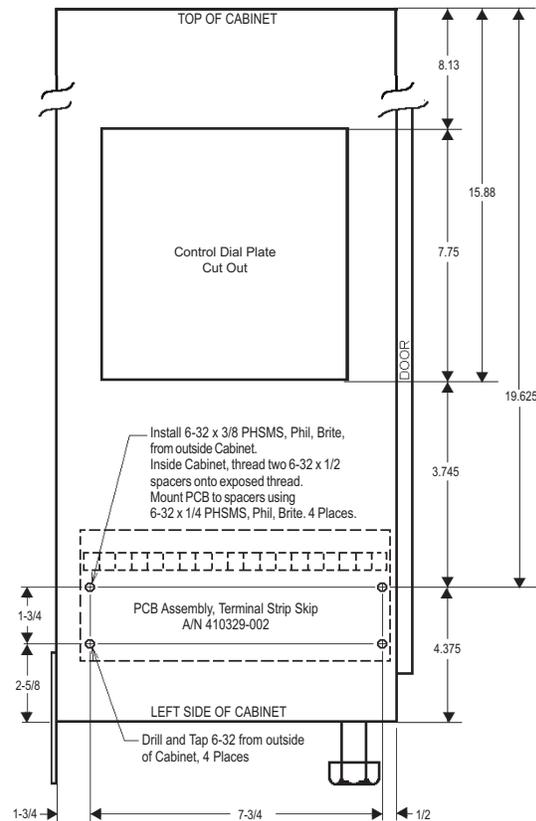

Figure E3. Mounting detail for
3. Remove the four (4) screws mounting Terminal Strip Input Board (A/N 410329) to the Cabinet. Rotate Board 180° (so terminal strip is at the top) and re-mount Board using same four (4) screws.
4. Drill and tap left side of the cabinet per Figure E3, be sure to vacuum or otherwise remove ALL metal chips before installing four (4) 6-32 x 3/8 PHSMS, Phil., Brite from outside the cabinet. On inside of the cabinet, mount two (2) 6-32 x 1/2 spacers (P/N 555031) on each exposed thread (4 places) to offset PCB 1" from cabinet wall.
5. Mount External Terminal Strip Skip PCB (A/N 410329-002) to spacers using four (4) 6-32 x 1/4 PHSMS, Phil., Brite. See Figure E3.